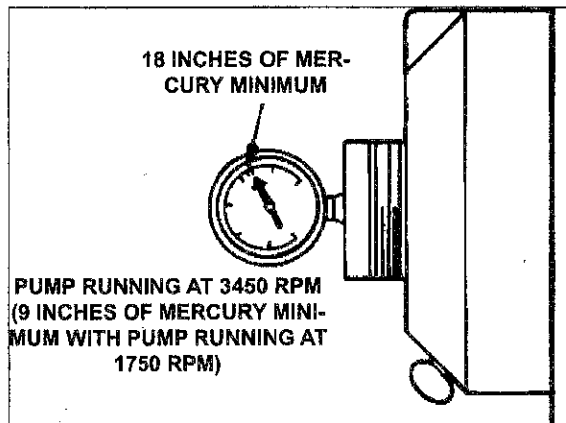

FIGURE 4.
2. Shut off power source to pump. Shut off valves to and from pump. While observing all safety precautions for the liquid being pumped, disconnect suction and discharge lines and drain the pump completely. Fill the pump with water. Install a vacuum gauge in the suction port (see figure 4). Turn on power source. Vacuum should exceed 18" of mercury when pump shaft is rotating at 3450 RPM and should equal or exceed 9" of mercury with pump shaft rotating at 1750 RPM. If vacuum is below these values, check the following:
- e. Check for worn impeller and/or volute. If necessary, replace these parts. (See items 14 and 15 of section V).